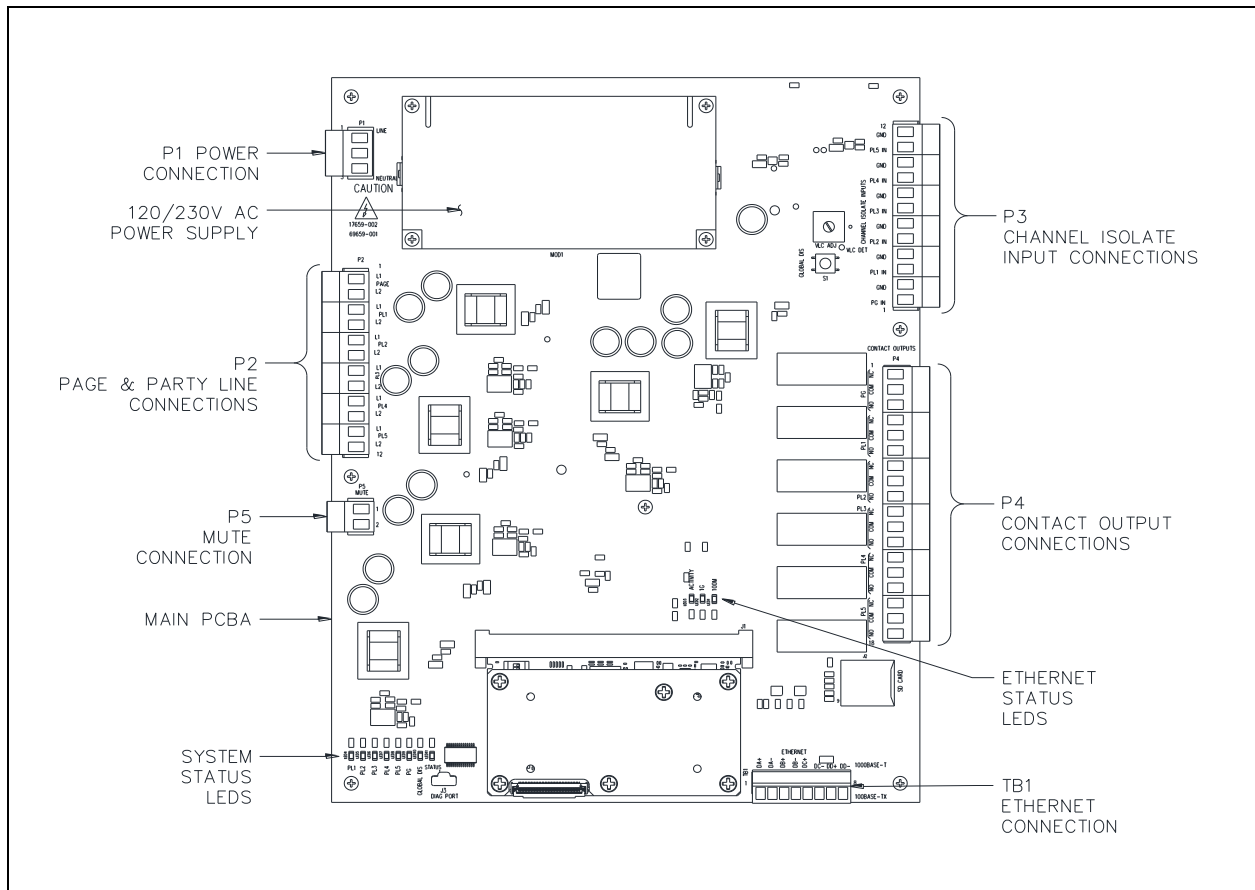

Figure 4. Main PCBA
The SP2 to Page/Party Bridge provides terminal blocks, on the main PCBA in the rear of the enclosure, for field wiring the power, 33-ohm Page/Party audio lines, Ethernet, channel isolation inputs, and contact outputs (see Figure 4)
3. Connect the Ethernet cable to the 8-position pluggable terminal block TB1 (see Figure 4 and Table 1).
3. Connect each audio pair to one of the two-position terminal blocks (see Figure 4 and Table 2).
4. Connect the six P2 terminal blocks to the terminal block receptacle P2 (see Figure 4).
Terminate the six channel isolation inputs to terminal block P3 (see Figure 4). P3 is a 12-position terminal block. There are six, two-position terminal plugs; one for each channel isolation input.
3. Connect each channel pair to the two-position pluggable terminal block for that channel (see Figure 4 and Table 4).
The SP2 to Page/Party bridge provides six relay contact outputs (see Figure 4). Outputs become active upon detection of a digital audio signal on the associated SP2 audio channel. These outputs may then actuate field devices when SP2 page or party-lines go off-hook.
3. Connect each set of output contact wires to the appropriate three position pluggable terminal block (see Figure 4 and Table 5).